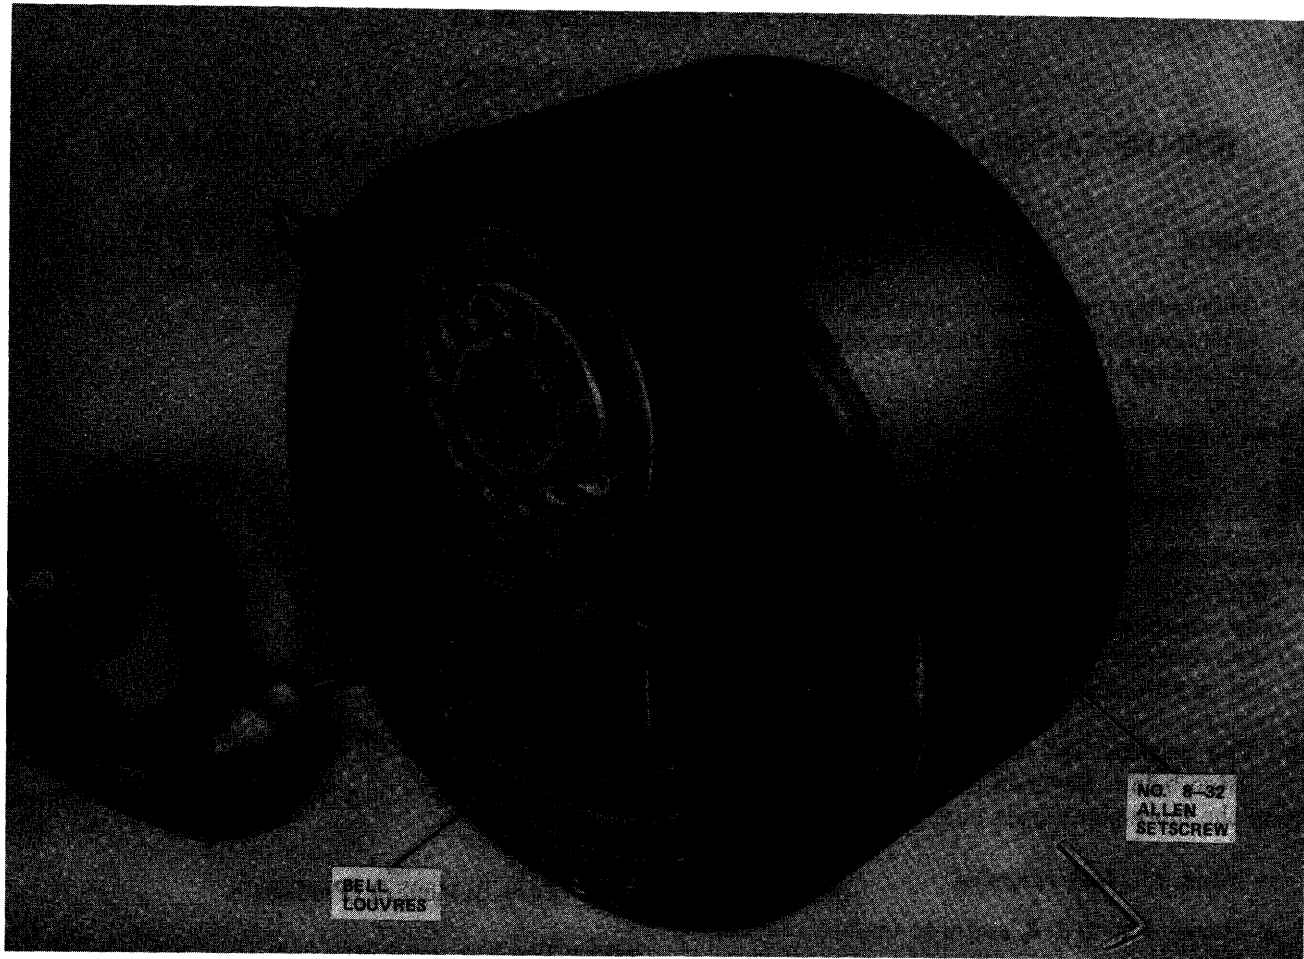
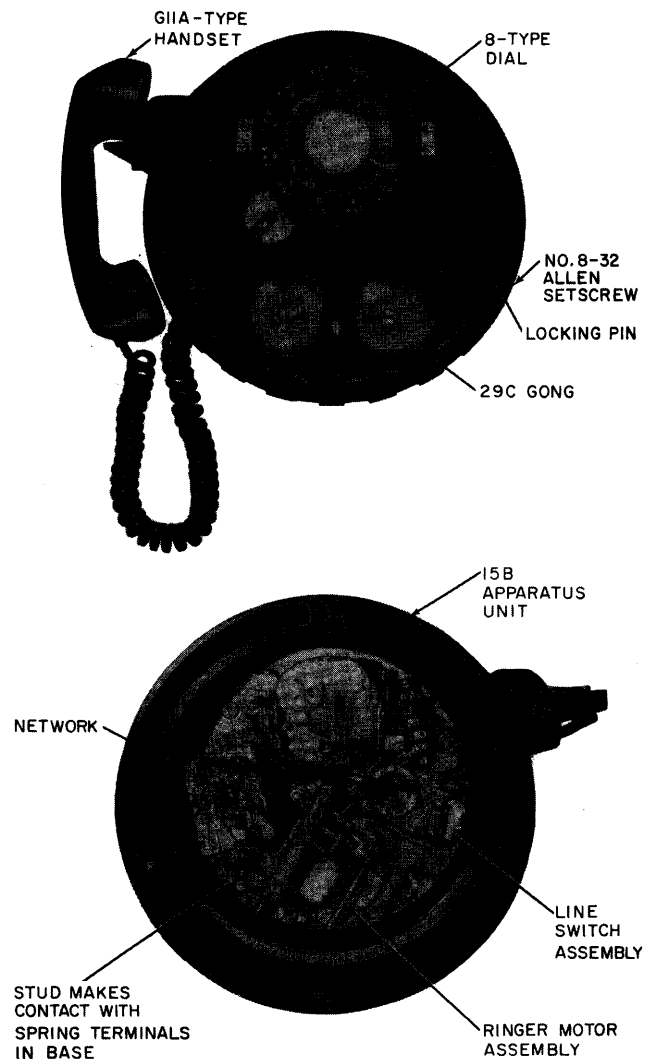

Fig. 1—520B Telephone Set
Fig. 3—Interior and Front View of 15B Apparatus Unit
- Revise Fig. 1, 2, 3, and 6 to update information
2.01 The 520-type telephone set (Fig. 1 and 2) consists primarily of two major components, an apparatus unit and a base. These parts are made of
2.05 The base (Fig. 3) provides an external projection to engage corresponding threads in the apparatus unit. It also provides spring-type contact terminals for line and ground conductors.
2.06 The apparatus unit, which screws onto the base, contains the telephone set components (Fig. 3). Three projecting studs located on the back of the apparatus unit make contact with the three spring terminals in the base, thus carrying line and ground connections into the unit. The earlier versions of the apparatus unit are equipped with a 23A lock and two keys. Keys are interchangeable with all 320-, 520-, and 2520-type telephone sets. ♦The current versions of the apparatus unit are equipped with a No. 8-32 Allen setscrew (Fig. 1) which performs the same function as the 23A lock by engaging the locking pin, which then allows the cover to be secured. ♦The early and current version sets cannot be locked unless the locking pin is engaged in the locking hole in base of set.
- (a) Loosen No. 8-32 Allen setscrew (Fig. 1) to permit release of locking pin.
4.02 To remove apparatus unit from service, turn key in lock on earlier versions or remove cover and loosen No. 8-32 Allen setscrew (Fig. 1) on current versions until locking pin pops out. Apparatus unit may now be screwed off base.